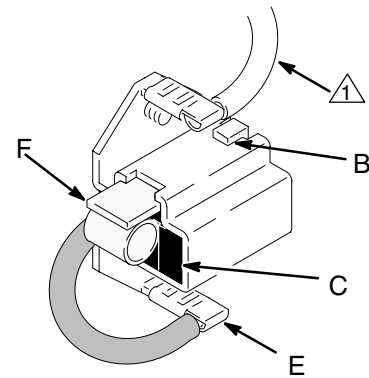

Fig. 6
1. Fig. 6. Install new brush (F) with lead into brush holder (C).
3. Fig. 6. Install spring clip (A). Push down to set hook (B) into brush holder (C).